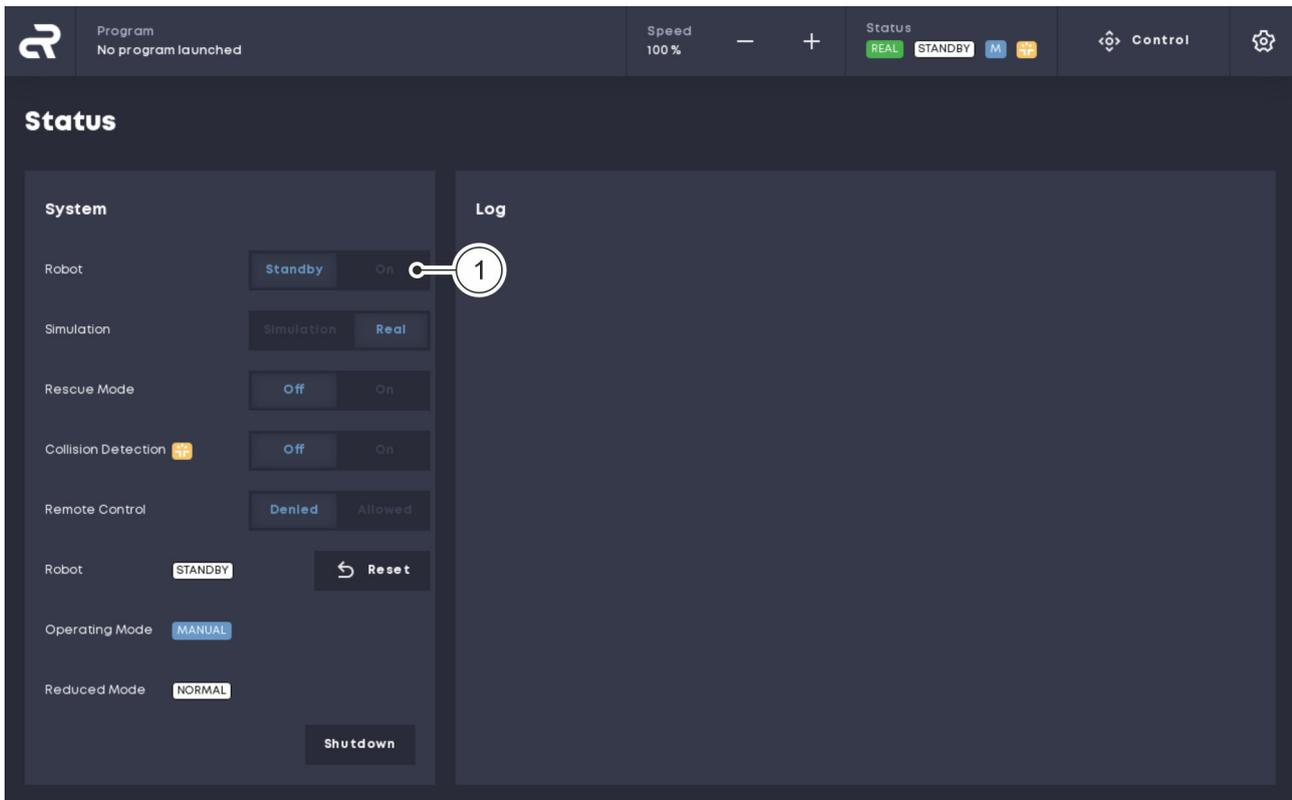

Fig. 34 Switching on the robot controller
To do this, click the 'On' button Fig. 34/① next to 'Robot' in the 'Status' menu.